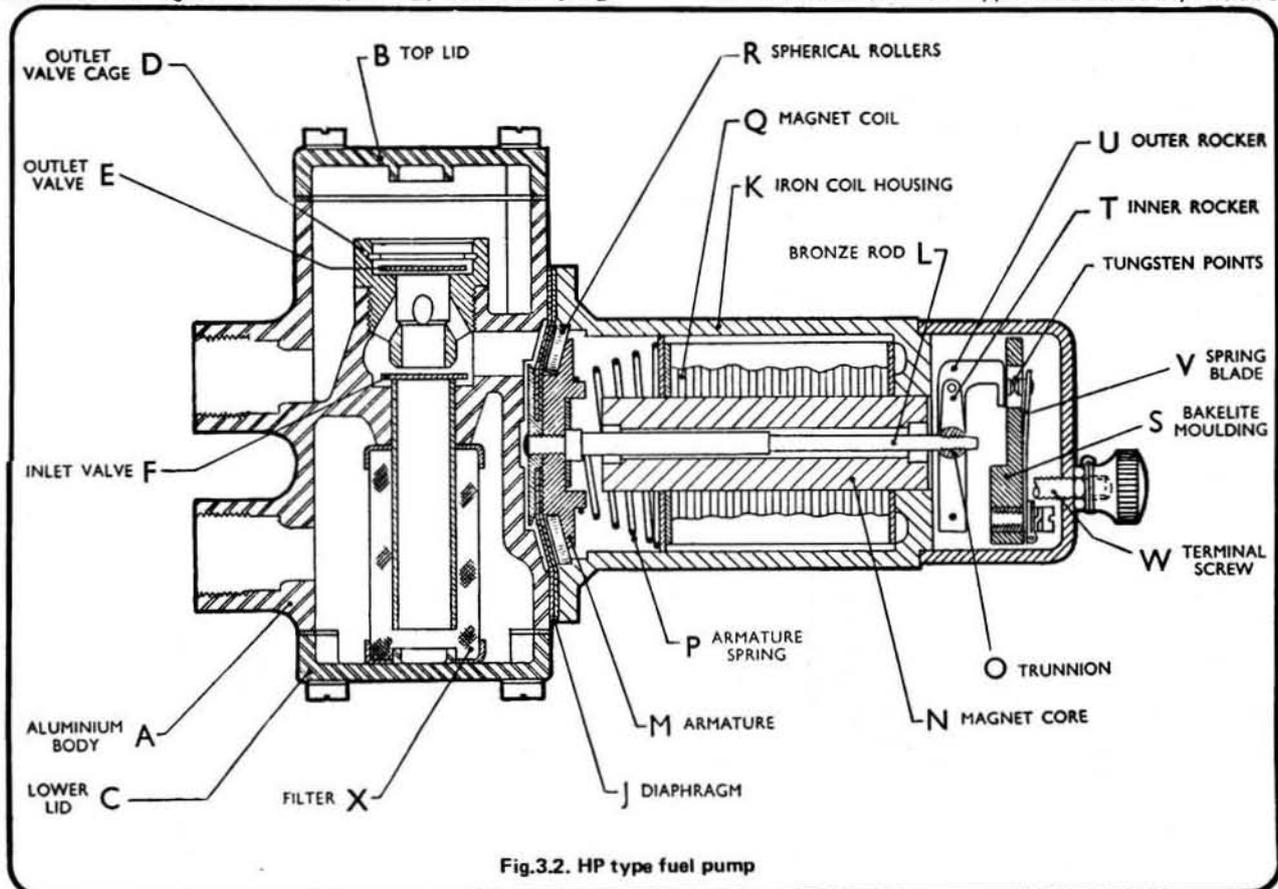
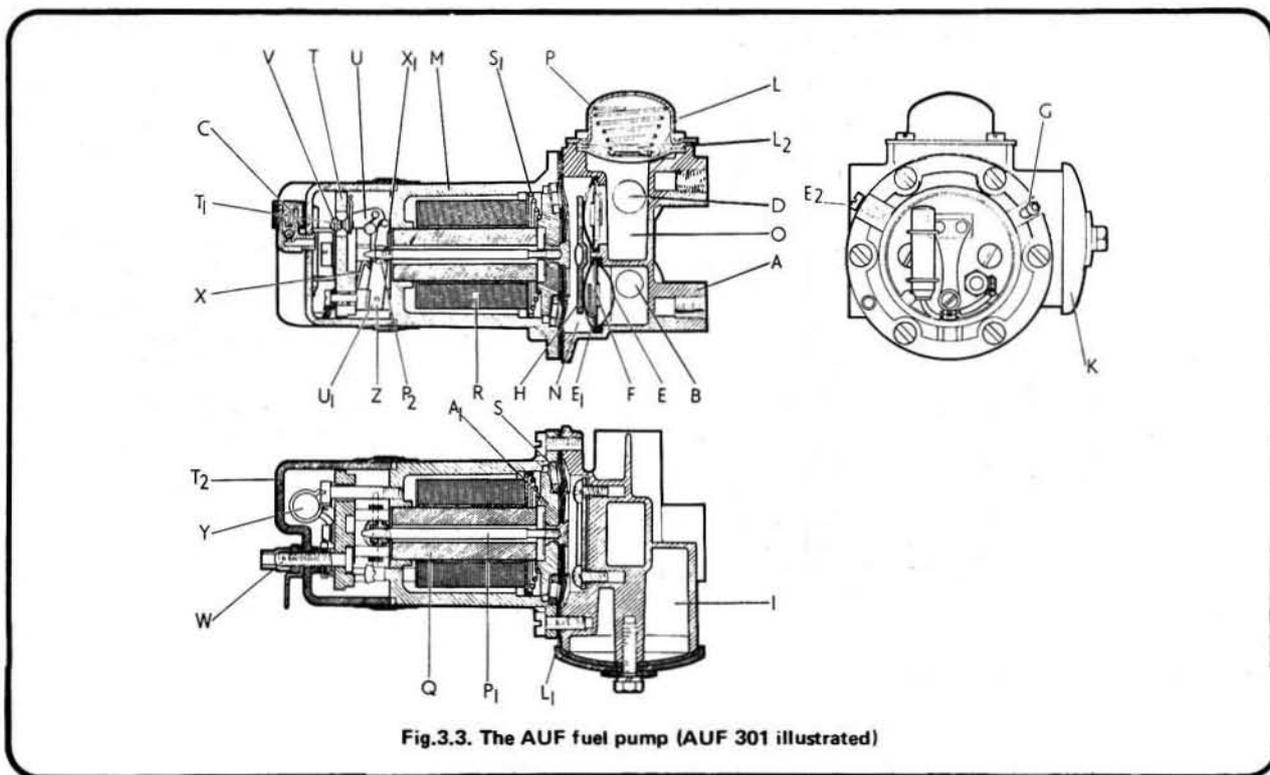

Fig.3.2. HP type fuel pump
Fig.3.3. The AUF fuel pump (AUF 301 illustrated)
A sectioned view of the type of fuel pump fitted to early model cars is given in Fig.3.2. The pump consists of three main assemblies - the body, the magnet assembly (sometimes referred to as the coil housing assembly) and the contact breaker.
pump which was introduced for later Mk 2 models. The coil housing of this pump is approximately 2¼" in length compared to 2¾" of the earlier type. However, the above pumps were superseded by the AUF. 301 (late model Mk 2 and 3.8 litre cars) and by the AUF .303 as fitted to 240 and 340 models but which may also be found on the other range of cars. These pumps differ considerably from the pump described above as will be seen from the sectioned drawing (of the AUF.301) which is shown at Fig.3.3. This pump also comprises three main assemblies: the main body casting "A", the diaphragm armature and magnet assembly "M" contained within the housing, and the contact breaker assembly housed within the end cap "T2". A non-return valve assembly "C" is fixed to the end cover moulding to aid the circulation of air through the contact breaker chamber. The main fuel inlet "B" is maintained in communication with an inlet air bottle "I".
Communication with the main pumping chamber "N" is provided by an inlet valve assembly, this assembly comprises a Melinex valve disc "F" permanently assembled within a pressed steel cage, which, in turn is held in place by a valve cover "E1", while the outlet from the pumping chamber is provided with an identical valve assembly reversed in direction. Inlet and outlet valve assemblies and filters are held in position by a clamp plate "H", both valve assemblies may be removed by detachment of the clamp plate after removing the self tapping screws shown on the lower diagram in Fig.3.3. A filter "E" is provided upstream of the inlet valve assembly. The delivery chamber "O" is bounded by a flexible plastic spring loaded diaphragm "L" contained by the vented cover "P". The rubber sealing ring "L2" seals the diaphragm "L".
- 2 Refer to Figs. 3.2 and 3.3.
- 5 Mark the relative position of the coil housing and the body. Remove the six set screws which secure the coil housing and body and separate them. The edges of the diaphragm are now free and the spherical rollers, "R" in Fig.3.2 and "S" in Fig.3.3 should be removed.
- 9 Push out the rocker spindle pin ("Z" in Fig.3.3) to release the rocker assembly which cannot be dismantled any further. DO NOT remove the toggle springs.
- 4 Fit the impact washer over the diaphragm rod to enter the recess in the armature, "M" in Fig.3.2 and "AI" in Fig.3.3. Fit the large diameter of the armature spring into the coil housing. Enter the thread of the diaphragm rod into the trunnion, "O" in Fig.3.2 and "P2" in Fig.3.3. Turn the diaphragm clockwise until the rocker will just not throw over.